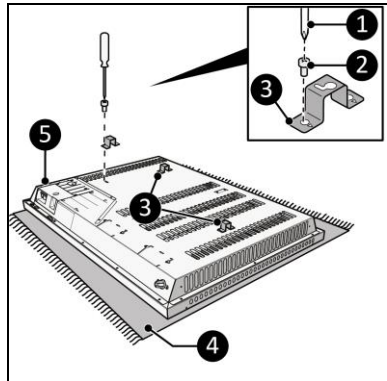

Figure 10
8. Lay the device down on a soft steady surface (Figure 10, pos. 4).
9. Screw and tighten three brackets (Figure 10, pos. 1) on both sides of the main body (Figure 10, pos. 5) with a small screw (Figure 10, pos. 2) using a Phillips screwdriver (Figure 10, pos. 3).